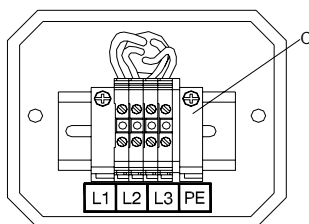

Fig. 2.4
2. Remove clear plastic insulator (C) Fig.2.4 that covers the terminals.